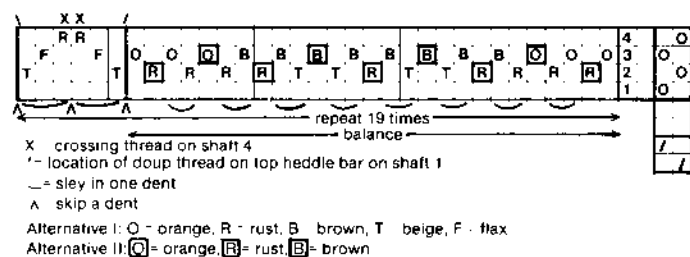

FIGURE 1.
SI.EY: See Fig. 1.
**THREADING AND TIE-UP:** See Fig. 1. The doups are attached to shaft 1. The crossings threads are on shaft 4. The standing threads are on shafts 2 and 3.